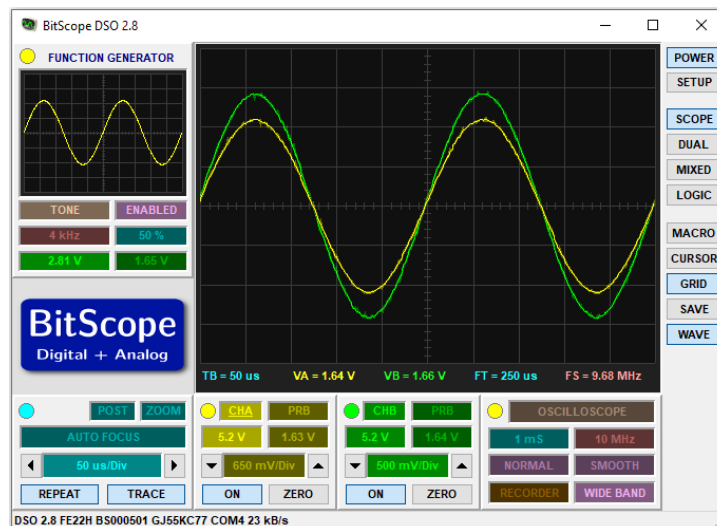

Figure 8. Distinguishable waveforms after parameter adjustments.
- f. You may adjust the scale to distinguish the signals on the display, as shown in Figure 8, by setting the appropriate parameter (unit: mV/Div). You may want try out both the coarse and fine adjustments and see their effects.